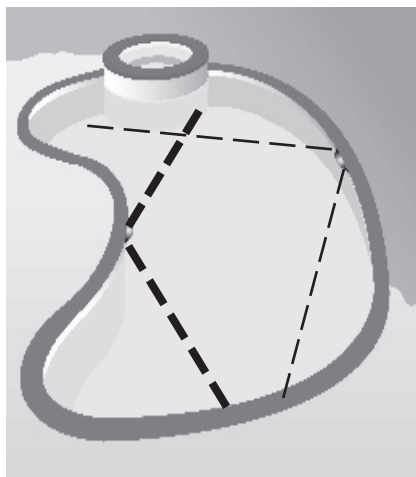

Figure 1.
1. **Narrow Beam Lens Position:** With the 'N' & arrow on the lens pointed to the notch insert the light assembly into the slot of the grille. Be sure the lettering "SUBMERGE BEFORE LIGHTING" appears as shown in Figure 1. See page 10 for more information.